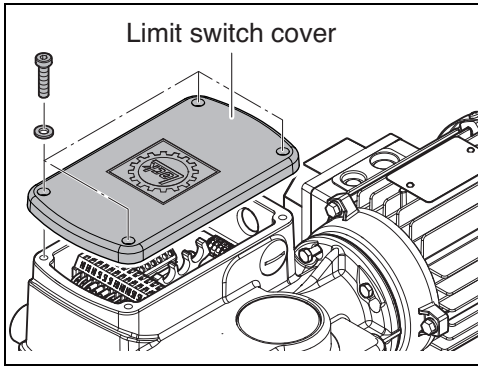

Fig. 10
- ▶ Remove the limit switch cover, (see Fig. 10). Use a Phillips screwdriver PH2, size 6.5.